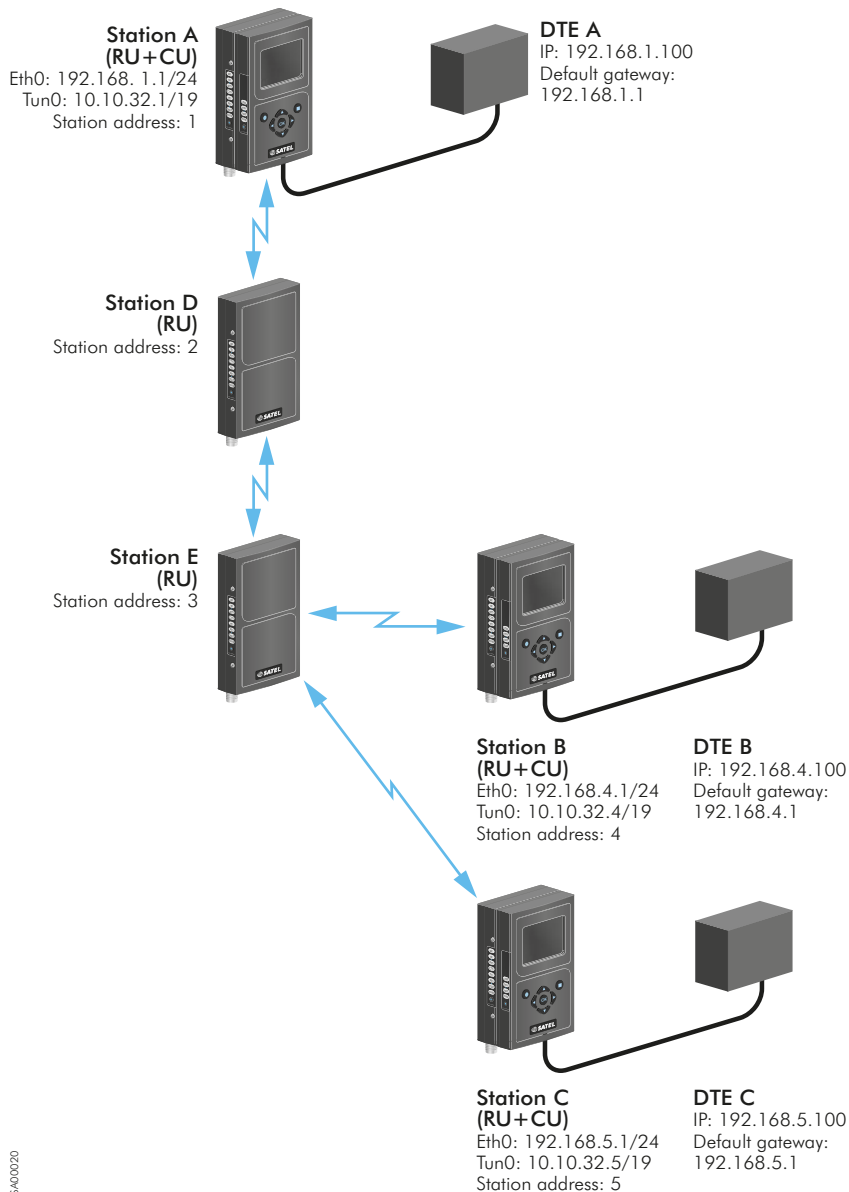

Figure 6.1 Routing example
In the Figure 6.1 shown on the next page is presented a network which has three (3) data terminal equipment devices (DTEs) connected to CU through Ethernet. Each CU is connected to a RU, together forming a SATELLAR-2DSd Radio Station (in this case RU type is: 1 W, with display and keypad). In addition there are two standalone RUs acting as repeater stations. Each of the stations has a unique station address (RMAC) which is a number freely selectable in the range of 1 ... 4094. The station addresses are used at the radio protocol level when sending messages through the radio path. (The radio protocol is explained in the RU user manual.)
How the station addresses are used for routing the data through the radio path, is explained in the RU user manual. This is called Packet Routing. For the network topology seen on Figure 6.1 the Packet Routes routing table looks like the following:
Table 6.1 Packet Routes routing table for Figure 6.1
The rules can be clarified with the help of Figure 6.1: Routing example.
For the network in the Figure 6.1 the IP routing tables of each CU equipped station are:
Table 6.2 IP routing tables for each CU in Figure 6.1